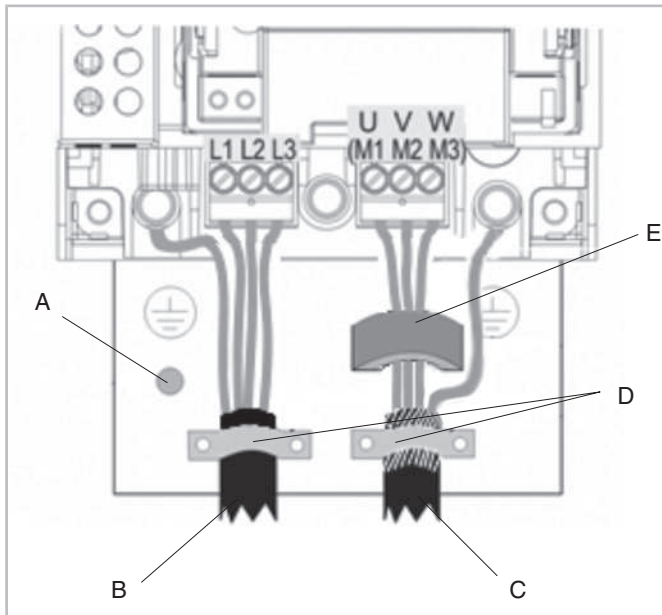

Fig. 11: Power connections (voltage supply cable and motor cable) with fixture
The fixtures for the power cables and control cables are delivered as standard in the accessories kit and must be mounted together with the ferrite core or the ferrite cores (see figure 11, page 18) up to VARIPACK housing size FJU+145, in order to achieve the EMC class C2 according to EN61800-3.
Graphical explanations, see figure 11, page 18.
- Guide voltage supply cable and motor cable through the intended cable entries under the cable clips into the VARIPACK frequency inverter (see figure 11, page 18) and connect to the power terminals. Observe the tightening torques of the terminals (see table 3, page 16).